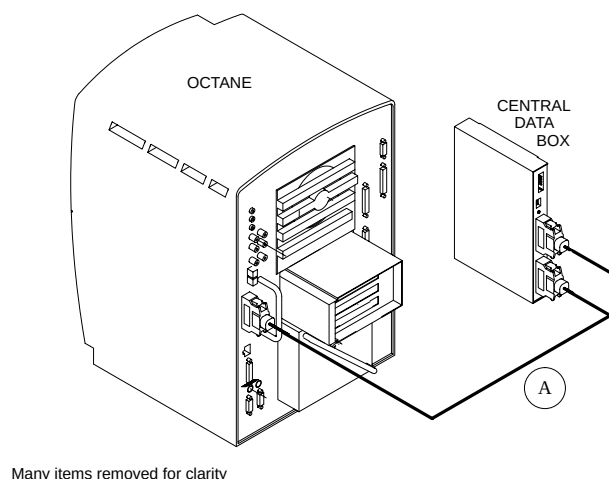

Figure 2-3 SCSI Cable Configuration without DASM
- 5.) Disconnect the Central Data Box end of SCSI cable A (2191432-2). Refer to Figure 2-3.